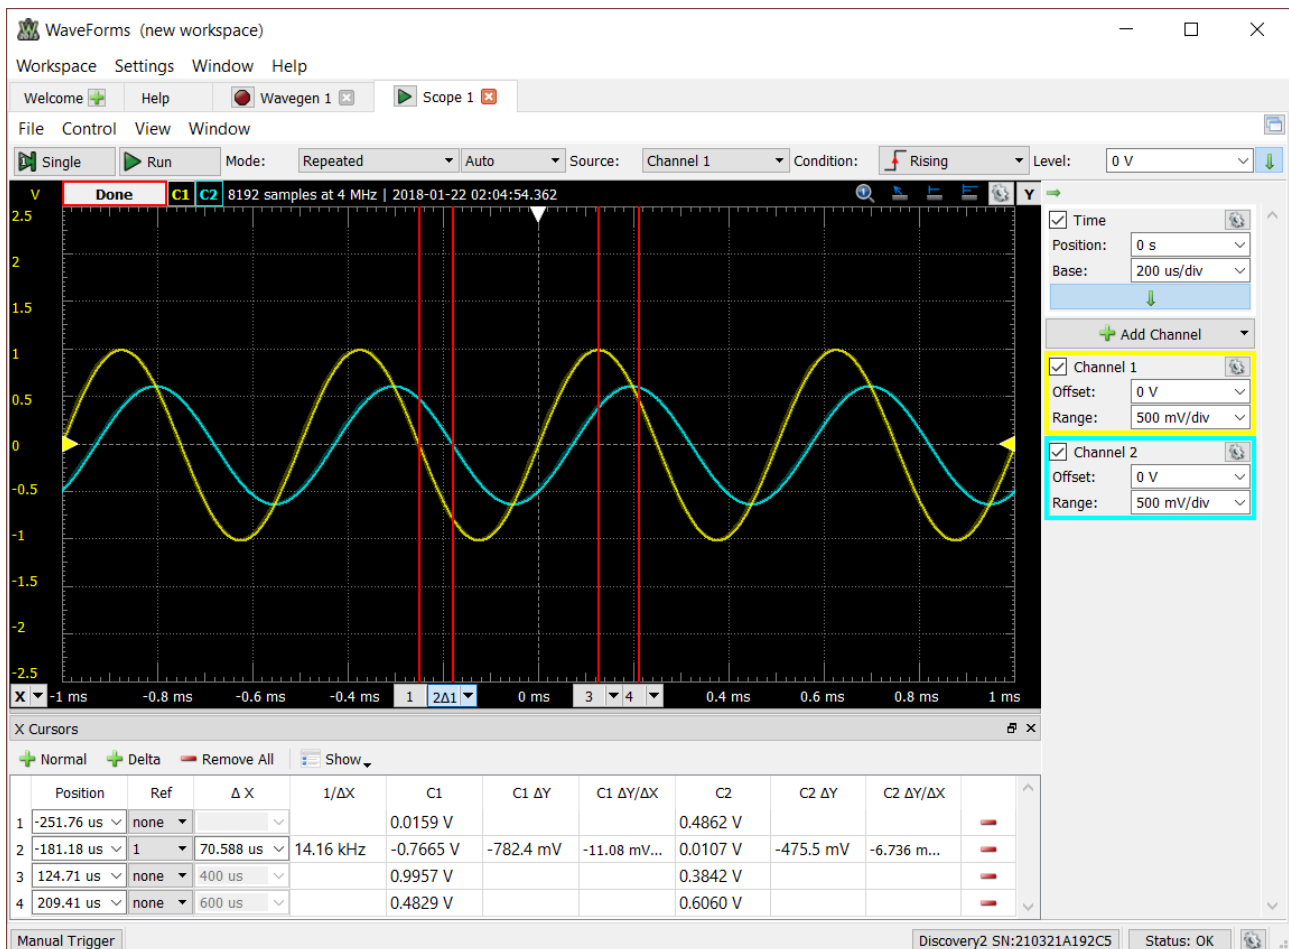

Figure 15: Scope Window
- Time-domain waveforms should appear on the Scope window as shown in Fig. 15